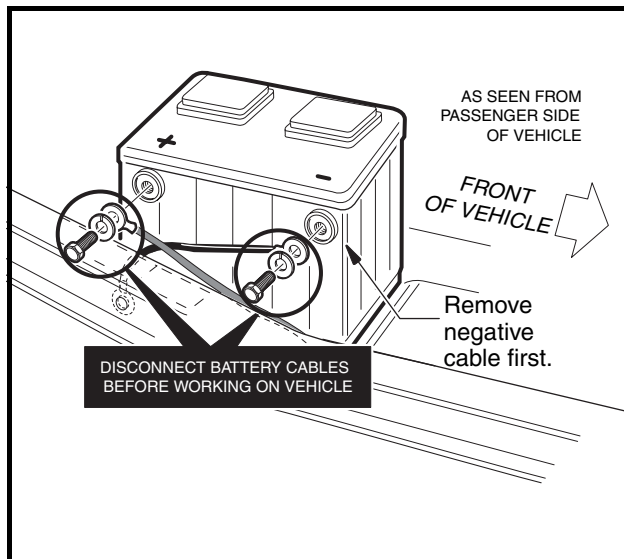

Figure 1 Gasoline Vehicle
- Disconnect battery cables, negative (–) cable first (Figure 1).